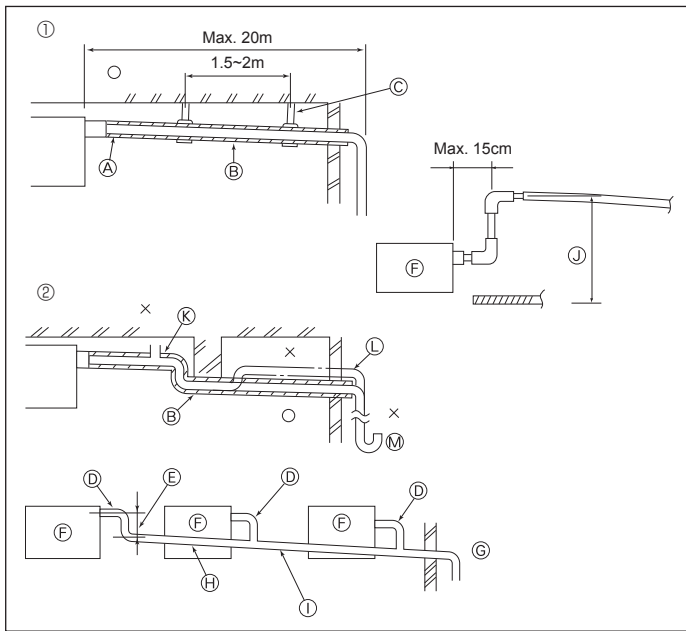

Fig. 3-1
3.1. Drainage piping work (Fig. 3-1)
- ① Correct piping
- ② Wrong piping